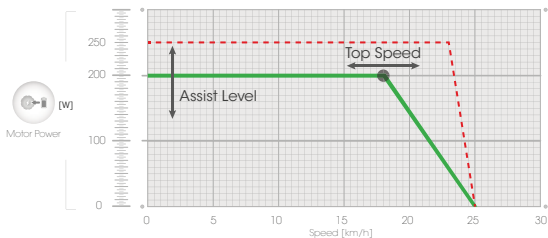
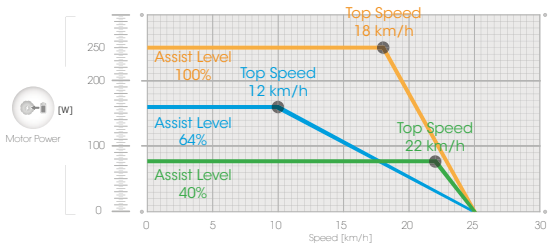

Figure 8: motor settings and power limitations
Figure 9: example of different motor settings
By changing the ASSIST LEVEL parameter (0% to 100%), you set the maximum level of assistance of the motor. 100% means 250W peak. Please refer to Figure 8 and Figure 9 for further information.
**▲ Note: the assistance also depends on your pedalling power. Figure 8 and Figure 9 is intended to explain the motor settings and NOT to give you detailed information about the effective motor power.**